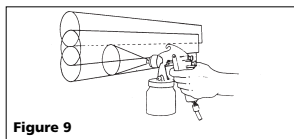

Figure 9
4. Overlap strokes just enough to obtain an even coat (See Figure 9).